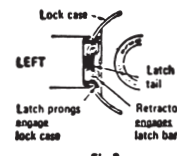

Fig. 3
- i - Position chassis so that latch prongs are facing to the left. (Fig. 3)